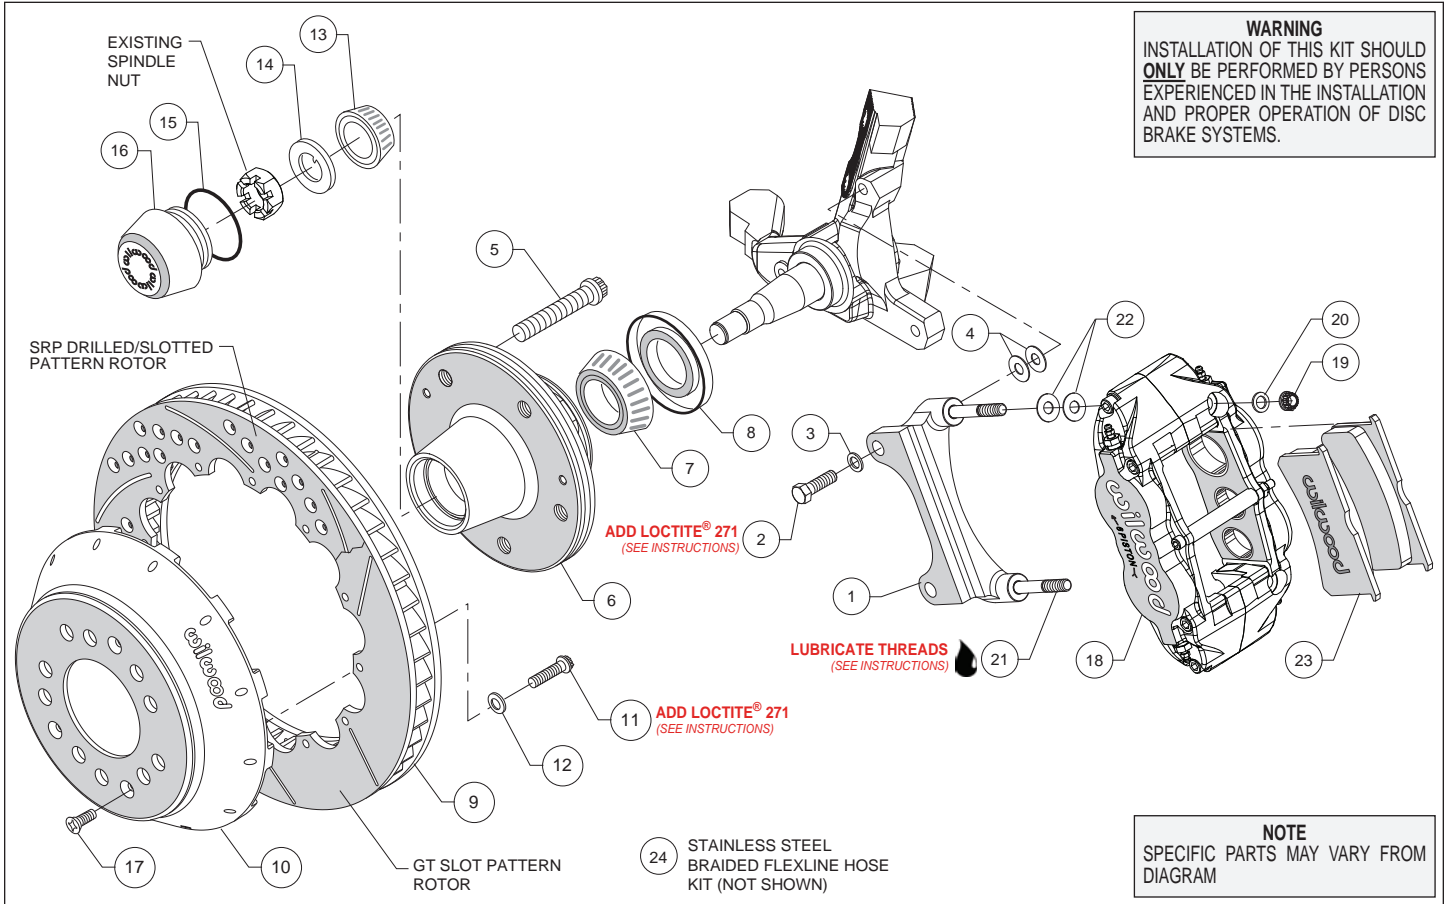

Figure 2. Typical Installation Configuration
**Assembly Instructions** (numbers in parenthesis refer to the parts list on the preceding page, and Figure 2):
- The caliper mount bracket (1) should initially be installed with clean, dry threads on the mounting bolts. Orient the bracket as shown in Figure 2 and Photo 1, and install using bolts (2) and washers (3). Initially place two .033" thick shims (4) on each bolt between the bracket and upright, Figure 2 and Photo 1. Temporarily tighten the mounting bolts. **NOTE:** The bracket must fit squarely against the mount bosses on the upright. Inspect for interference from casting irregularities, machining ridges, burrs, etc. Later, after the caliper alignment has been checked, the mount bolts will be secured using red *Loctite*® 271.
- Install wheel studs (5) into the hub (6), Photo 2. Torque to 77 ft-lb.
- Pack the large inner bearing cone (7) with high temperature disc brake bearing grease (available from your local auto parts store) and install into the backside of the hub (6), Photo 3.